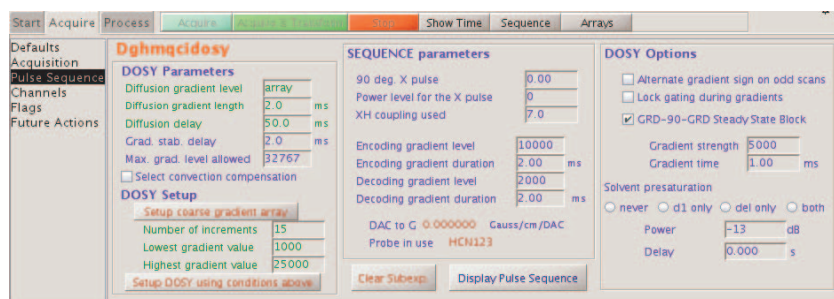

Figure 57. Pulse Sequence Panel for the 3D-hmqcidosity pulse sequence
6. Click on the **Setup DOSY using conditions above** button in the Pulse Sequence panel; see Figure 57.
The VNMRJ Pulse Sequence panel of the phase-sensitive 3D-hmqcidosity pulse sequence is shown in Figure 57.